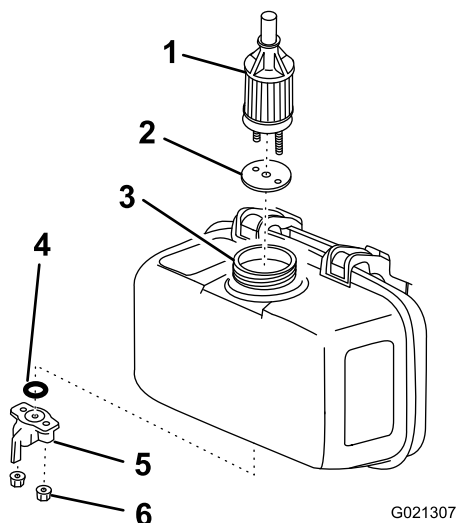

Figure 41
5. Loosen the nuts under the fuel shutoff lever (Figure 41).
6. Remove and discard the O-ring (Figure 41).
7. Pull the outlet fuel filter and gasket out of the filler port (Figure 41).
8. Install a new outlet fuel filter and gasket through the filler port, and seat them in the fuel tank (Figure 41).
9. Install a new O-ring on the fuel shutoff lever, and install the assembly to the fuel tank using the nuts under the fuel shutoff lever (Figure 41).